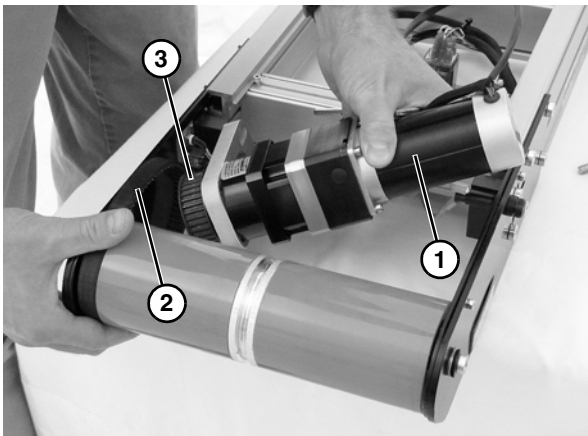

Figure 63
7. Slide drive motor (**Figure 63, item 1**) and remove timing belt (**Figure 63, item 2**) from drive motor gear (**Figure 63, item 3**).